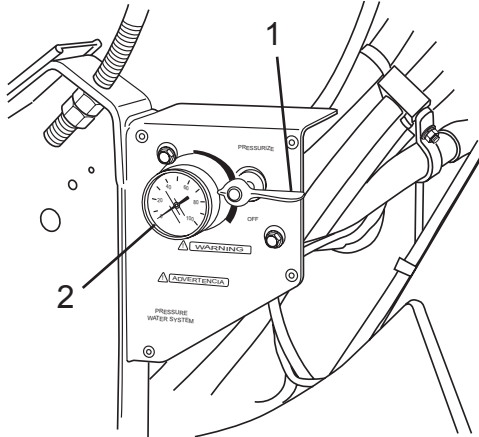

Figure 95
1. Turn air pressure control valve to EXHAUST position (Figure 95, Item 1). Make sure the gauge (Figure 95, Item 2) reads 0 PSI (0 kPa).